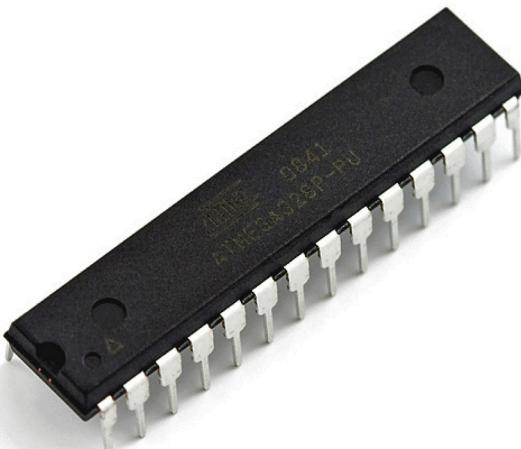

Figure 1-2:
Because it's a *microcontroller*, it's very small, so it doesn't need much power and can be put into tiny spaces like a project box. How small are microcontrollers? Physically, the one on the Arduino is about as large as they come, about half the size of a pack of gum, as you can see in Figure 1-2. The microcontroller is the rectangular *integrated circuit (IC)* on the blue *printed circuit board (PCB)*. It's that size because it's easy to handle with your fingers, so you can replace the microcontroller on your Arduino if it croaks for some reason. But microcontrollers start about this large and go down from there, all the way to the microscopic level. The main factors that determine their size are their capabilities and cost. In fact, the actual processor *core* on your Arduino chip is much, much smaller than the exterior IC chip itself.
The best part about *microcontrollers* is that they are inexpensive, unlike their big brothers, the *microprocessors* in your computer, laptop, tablet, or phone. Microcontrollers are inexpensive because they have limited capabilities (see Figure 1-2). They are mainly designed to control things or otherwise respond to sensory input, and are called *embedded systems*. Bigger computers have more general capabilities and need more power and therefore, cost more, and use *general purpose microprocessors*.